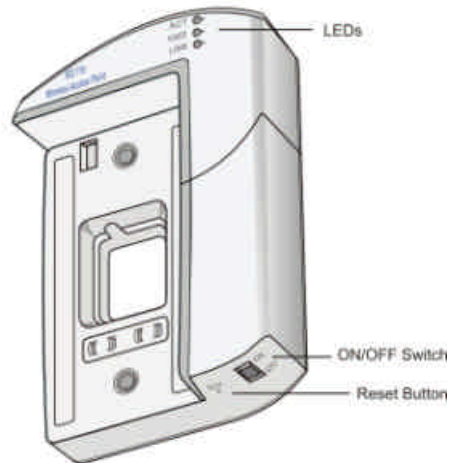

Figure 2.1 The *NetHome* Wireless Access Point Adapter
Figure 2.1 shows the *NetHome* Wireless Access Point adapter.
To operate the access point, make sure that the network is powered, by checking that the power cord is plugged into the SercoNet power unit, and switch the on/off switch (refer to Figure 2.1 on page 6) to the ON position.
5. Enter your user name and password in the appropriate fields. By default, the user name and password are blank. If you don't remember the user name and password, press the reset button on the Wireless Access Point adapter with a thin non-metallic object (refer to Figure 2.1 on page 6). This restores the user name and password to their default, blank values.